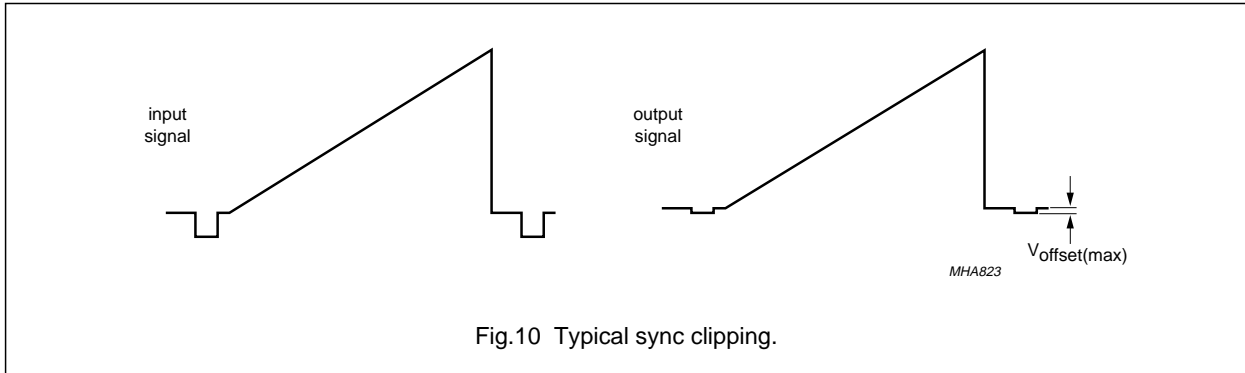

Fig.10 Typical sync clipping.
12. Composite signals will not disturb normal operations because an internal clipping circuit cuts all signal parts below black level. Typical sync clipping see Fig.10.